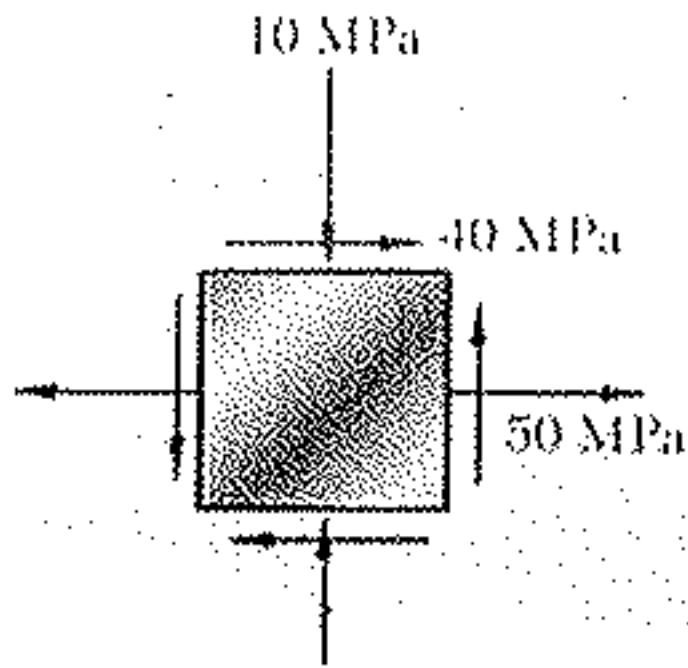

Figure 2
- For the state of plane stress shown in Figure 2, determine (a) the principal planes, (b) the principal stresses, (c) the maximum shearing stress and the corresponding normal stress.